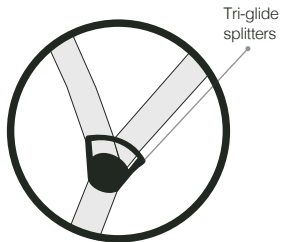

Fig. 3.
- The tri-glide splitter as shown in Fig. 3 is a key component for positioning the helmet and EOSS. Adjust the tri-glide splitters on each side of the helmet so that the left strap and right strap come together just under the earlobes.